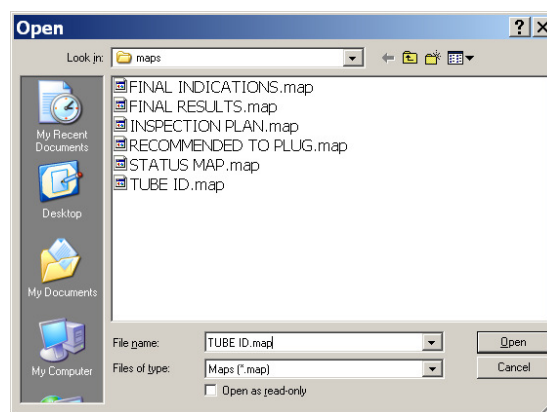

Figure 5. File | Open Map Dialog
- **File | Open Map** (Ctrl+O) displays the **Open** dialog shown in Figure 5. Simply select the desired *map* file from those listed in the **[project] \maps** directory and click the **Open** button. Alternatively, you can double-click a file. DBMS loads and displays the selected *map* in the working area of the main window. Information saved with the *map* will fill in the **Legend**, **Inspection Display** area, **Map Header** dialog, and **Tube Count Display**.